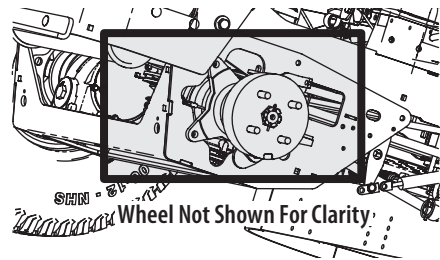
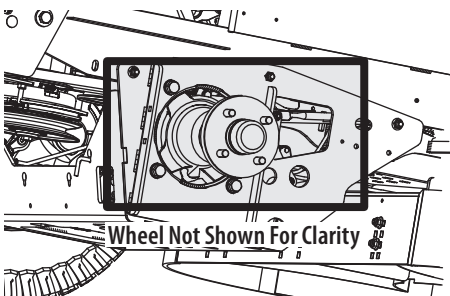

Fig. 33
Fig. 34
- Clean around and near the transmission, axle and the fan area (Fig. 33 for Parker transmissions and Fig. 34 for Hydro-Gear transmissions).